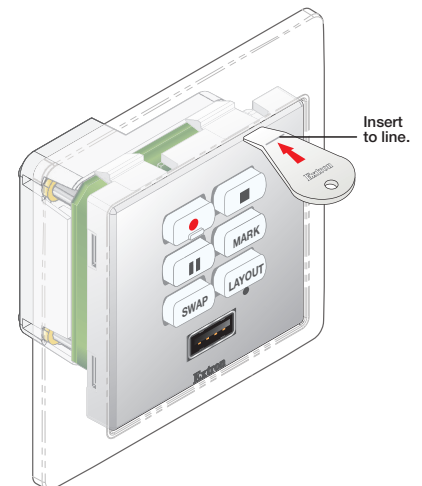

Figure 6. Removing the RCP 401
2. Use the Extron removal tool to release the catches on either side of the control plate (see figure 6).